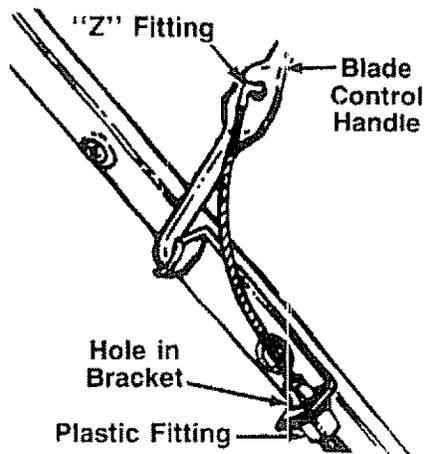

FIGURE 3.
- The brake cable is attached to the engine, and has a "Z" fitting on the loose end. Route the brake cable below the lower handle. Place end of cable through the hole in the bracket as shown in figure 3. Be careful not to bend or kink the cable at any time. Push the plastic fitting until it locks into the hole in the bracket.
- Hook the "Z" end of the brake cable into the hole in the blade control handle from the inside to the outside as shown in figure 3.